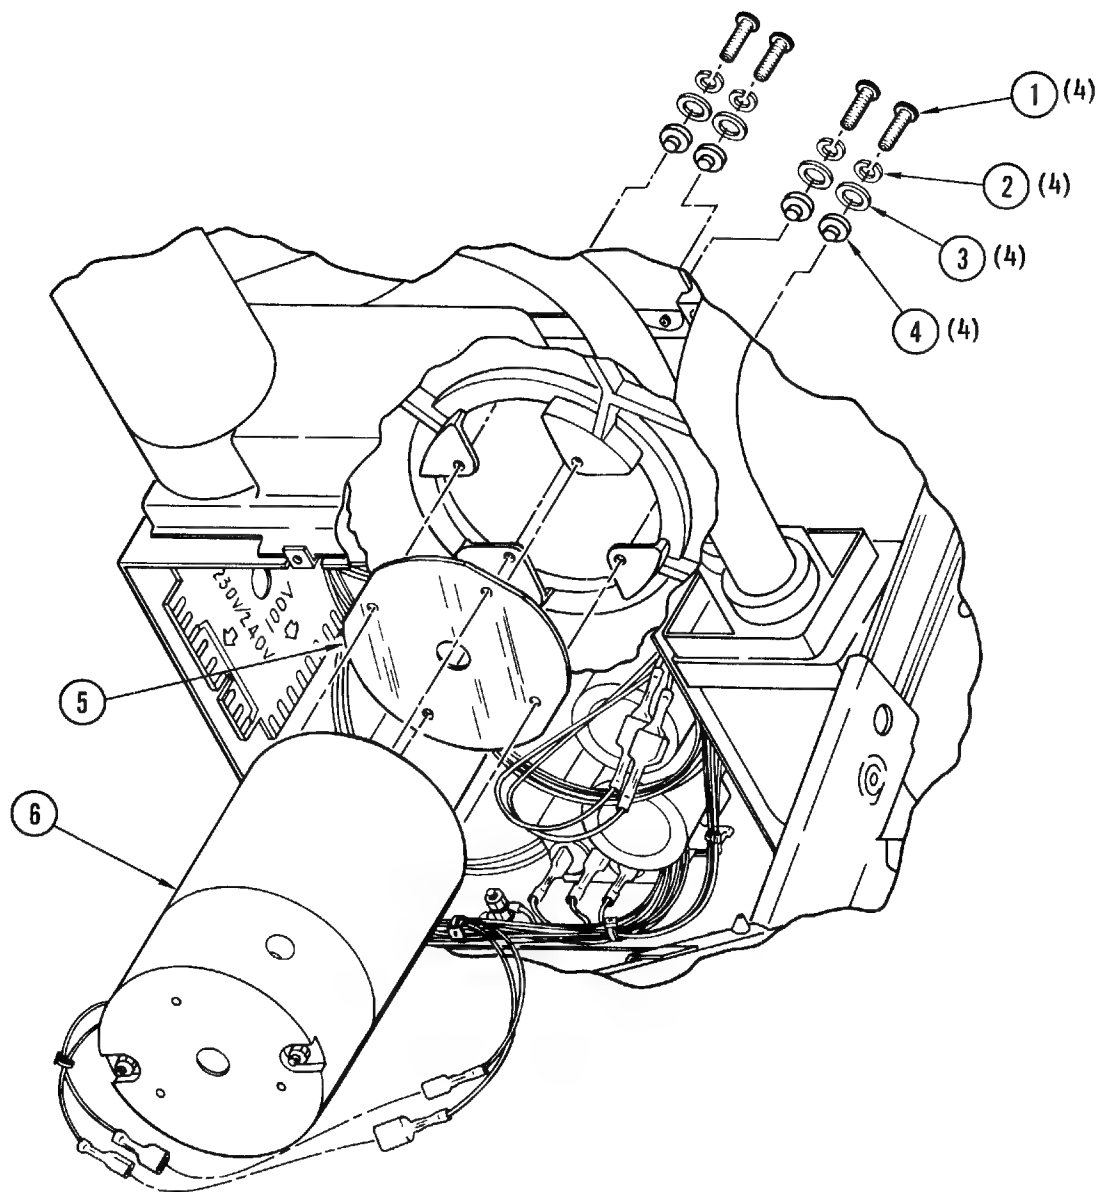

Figure 4-26. Takeup Motor Assembly
4-40. Removal, Replacement and Adjustment (Figure 4-26). Place the transport in service access position (paragraph 4-3) and remove and replace the takeup motor assembly in accordance with the following procedure:
- f. Remove four screws (1, Figure 4-26), lockwashers (2), flatwashers (3), shoulder washers (4), and takeup motor (6) out of drive, noting orientation of motor. Save attaching parts, including insulator (5), for use in assembly.